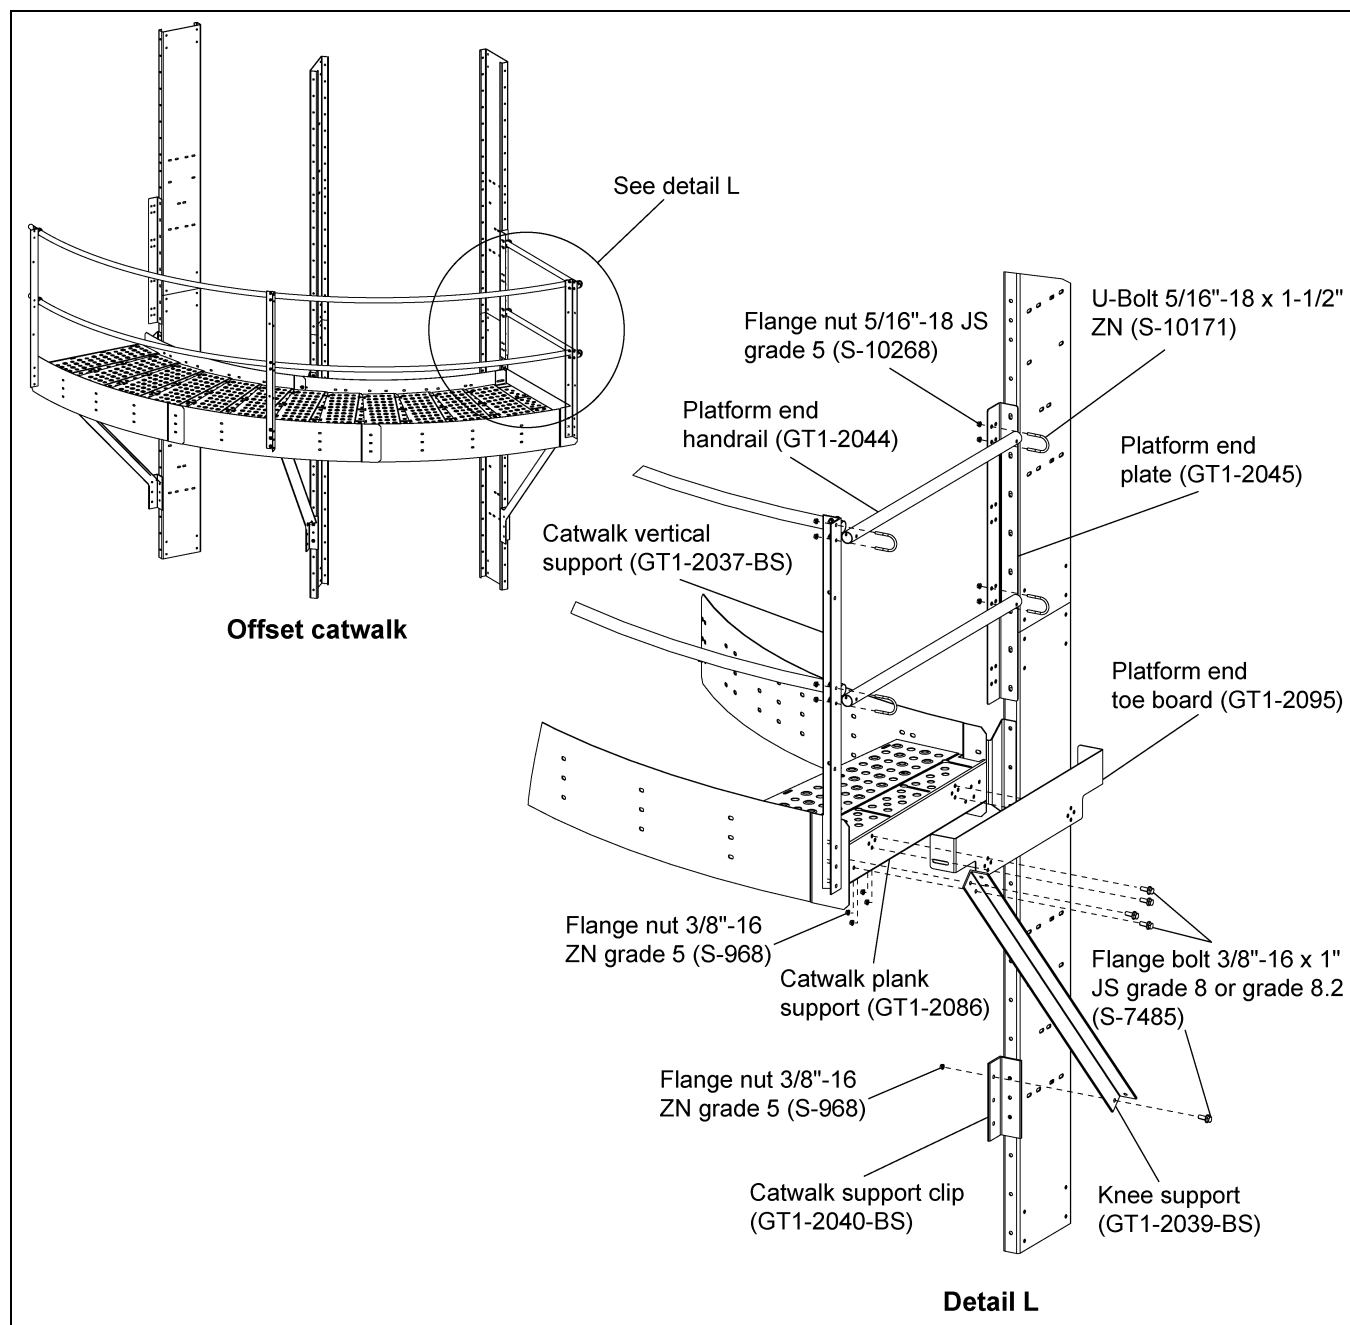

Figure 6V Offset Platform End Handrail (GT1-2044) Installation
1. Install the platform end handrail (GT1-2044) to the catwalk vertical support (GT1-2037-BS) and the platform end plate (GT1-2045) using 5/16"-18 ZN U-bolts (S-10171) and 5/16"-18 JS grade 5 nuts (S-10268). (See Figure 6V.)
2. Install the platform end toe board (GT1-2095) and knee support (GT1-2039-BS) to the catwalk plank support (GT1-2086) using 3/8"-16 x 1" JS grade 8 or grade 8.2 bolts (S-7485) and 3/8"-16 ZN grade 5 nuts (S-968). (See Figure 6V.)